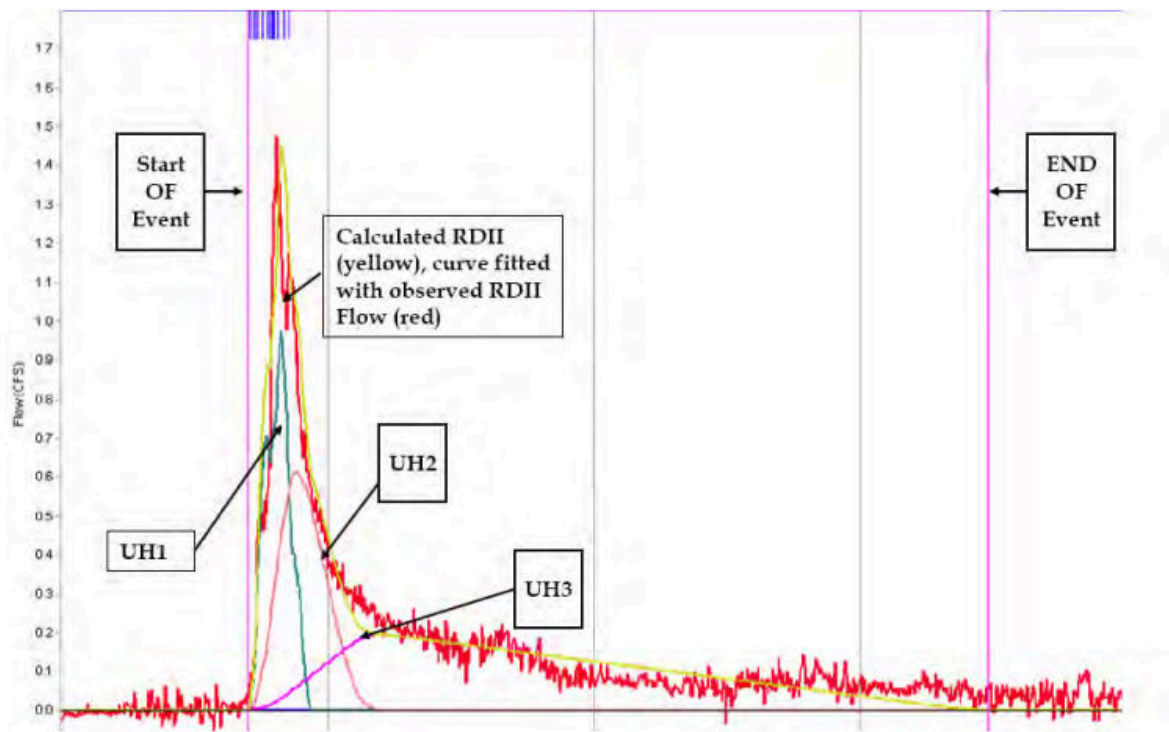

Figure 7-7 Fitting unit hydrographs to an RDII flow record (Vallabhaneni et al., 2007).
3. Estimate the R-T-K values for each of three unit hydrographs whose resultant hydrograph best matches the RDII flow extracted from the flow record (see Figure 7-7).